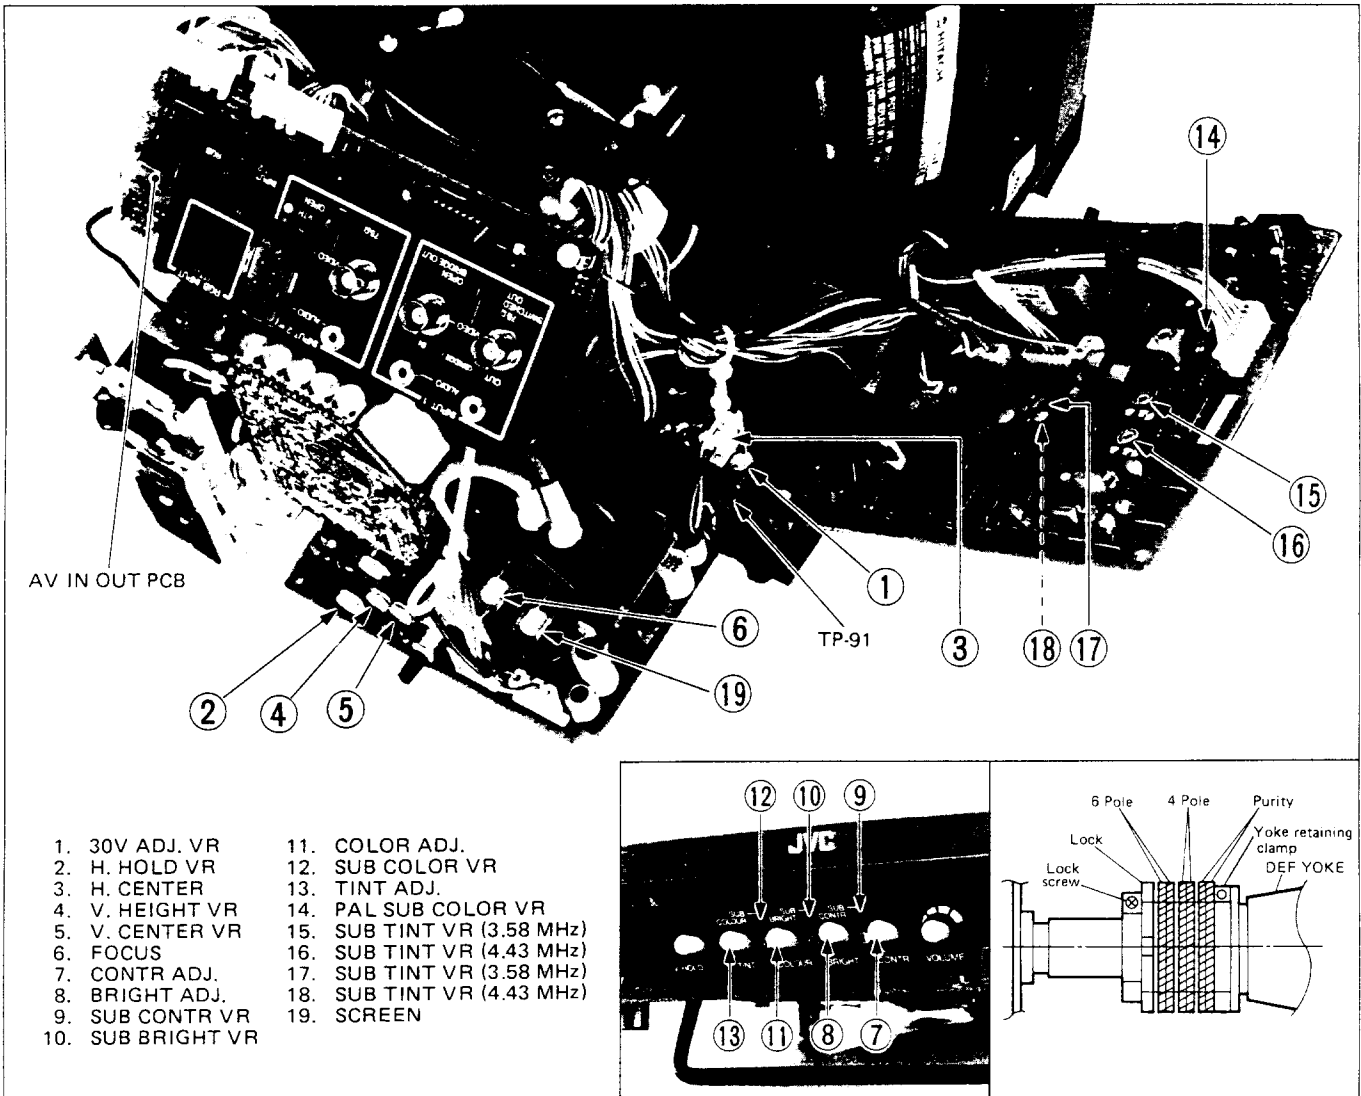

Fig. 2-1
Loosen the yoke retaining clamp, PAINT is used to lock the tabs of the purity/convergence magnet assembly in place. The paint must be removed with the end of a screwdriver, and then unfasten the magnet locking ring counterclockwise (Fig. 2-1) before any adjustments are attempted.
4. Turn the GREEN CUT-OFF VR maximum and the RED and BLUE CUT-OFF VR's to minimum. Then adjust the SCREEN VR so that the green band can be seen best. (Fig. 2-1, 2-7)
3. Turn the RED, GREEN and BLUE CUT-OFF VR's and the SCREEN VR fully counterclockwise. (Fig. 2-1, 2-7)